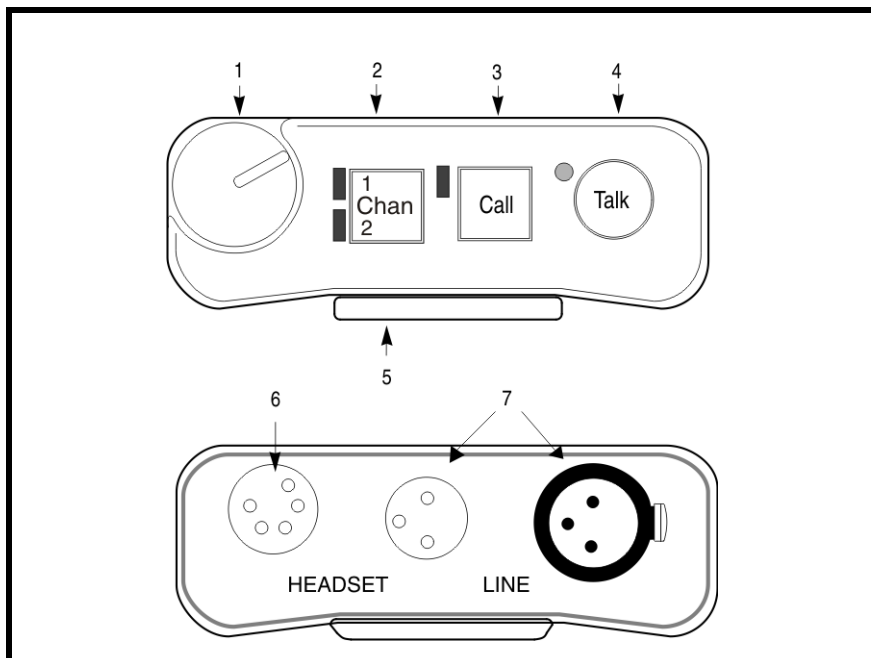
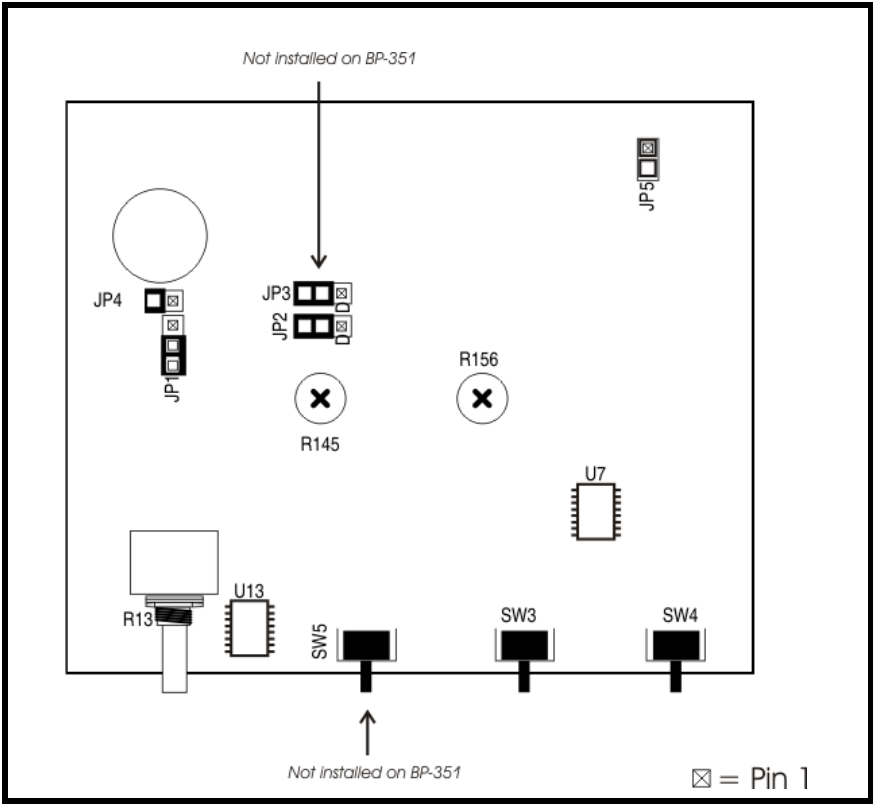

FIGURE 1. *Reference View*
FIGURE 2. Internal Jumpers and Switches
- A loop-through connection (XLR male) connects several beltpacks in a chain. Since this is often the preferred method of connection, a line loop connector has been added to new units. See Figure 1 on page 6.
NOTE: The numbers refer to the callouts in Figure 1.
There are several internal switches, jumpers, and adjustments that affect operation. These are described below. To gain access to the switches, jumpers, and adjustments, disconnect all power and line connections. Remove two screws from the top of each side of the case and two screws from the bottom of each side of the case. The jumper and switch locations are shown in Figure 2.
The **Sidetone Adjustment** is accessible either internally (see Figure 2) or by removing the belt clip mounting screw (#5) shown in Figure 1.
The **Mic Gain Adjustment** is accessible internally on the board (R156)y (see Figure 2) or by removing the belt clip mounting screw (#5) shown in Figure 1.